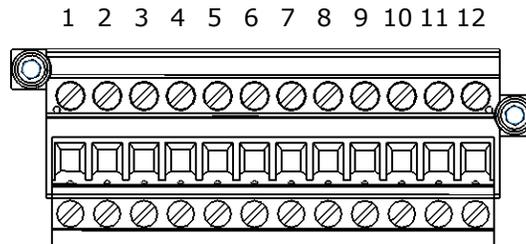

Figure 3-6 Mating terminal block (TB2) in electronics enclosure for connecting signal cables
4. Strip back the jacket and insulation of the current loop output and serial cables just enough to connect to the mating terminal block, shown in Figure 3-6. The mating terminal block can be pulled up and removed from its base to make the cable connection process easier.